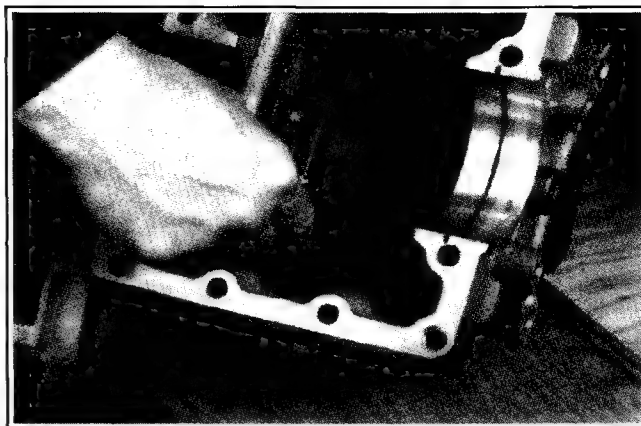

Figure 9-52. Removing Oil Filter Pick-up Screen.
4. Remove the two torx head screws securing the oil screen to the bottom of the crankcase. Remove the oil filter pick-up screen. See Figure 9-52.